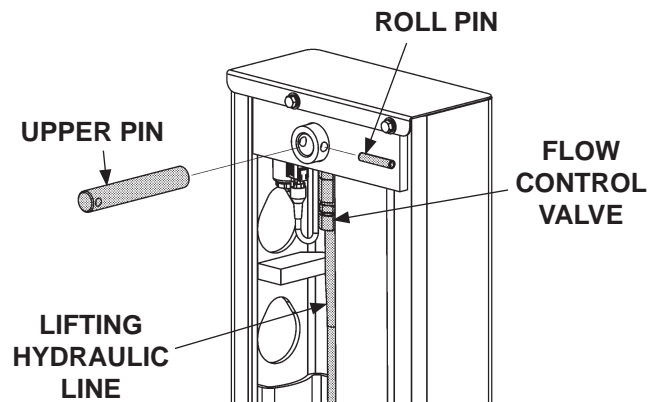

FIG. 31-1
16. Disconnect lifting hydraulic line from fitting on flow control valve near top of lifting cylinder. Hold cylinder firmly and remove roll pin and upper pin (**FIG. 31-1**).